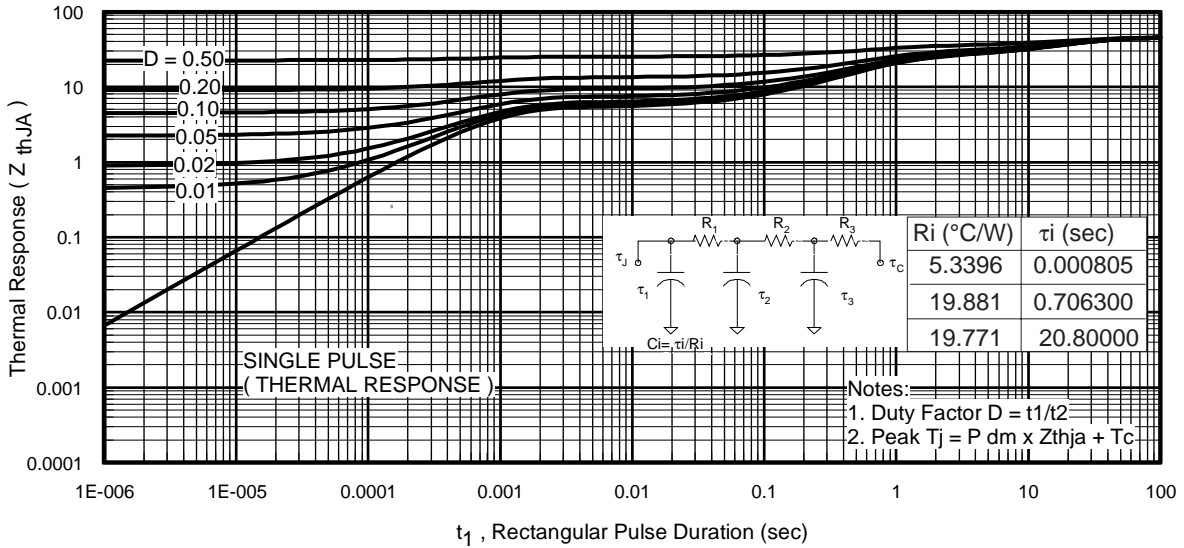

Fig 11. Maximum Effective Transient Thermal Impedance, Junction-to-Ambient
- ① Repetitive rating; pulse width limited by max. junction temperature. (See fig. 11).
- ② Limited by T_{Jmax}, starting T_J = 25°C, L = 4.8mH
$Z_{thJC}(D, t_{av})$ = Transient thermal resistance, see figure 11)